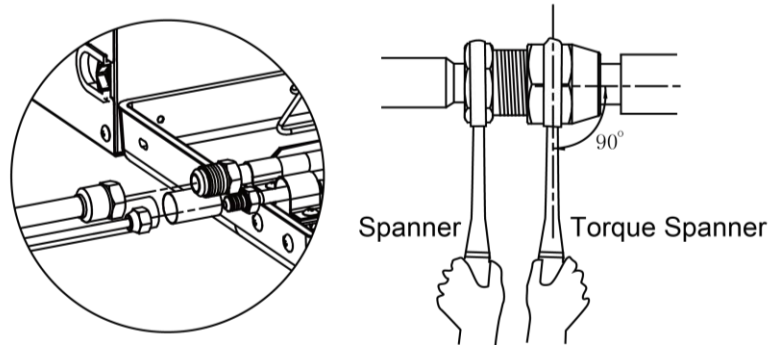

Fig.4.3.1
- (1) Conform to the following principles during piping connection: Connection pipeline should be as short as possible. The height difference between indoor and outdoor units should be as short as possible. Keep number of bends as little as possible. The radius of curvature should be as large as possible.
- (2) Weld the connection pipes between indoor and outdoor unit. Please strictly conform to the requirements for welding process. Rosin joints and pin holes are not allowable.
- (3) When laying the pipes, be careful not to deform them. The radius of bending parts should be more than 200mm(7-7/8in.). The pipes cannot be repeatedly bent or stretched, otherwise the material will get harden. Do not bend or stretch the pipe over three times at the same position.
- (4) Please use a torque wrench to connect union nut on the indoor unit. See Fig. 4.3.1.